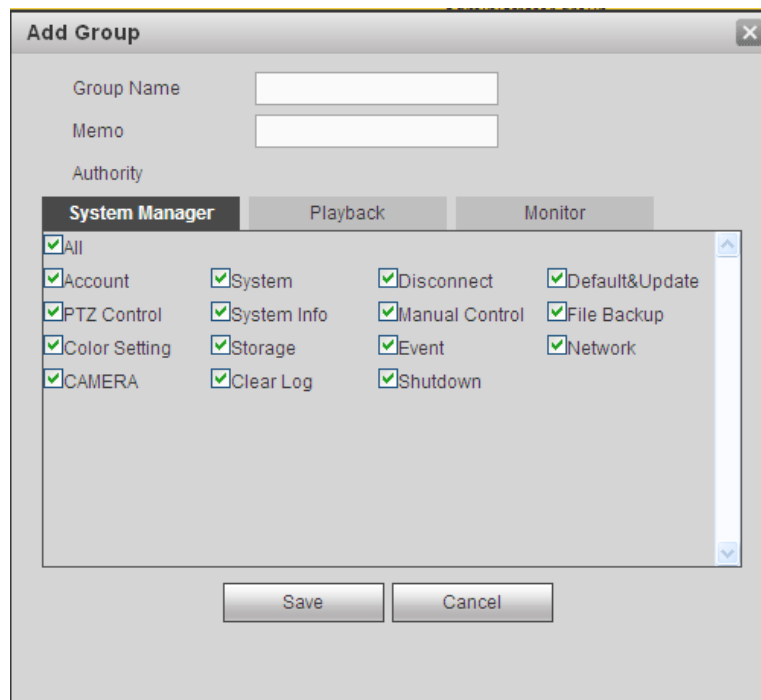

Figure 5-88
**Add group:** It is to add group and set its corresponding rights. See Figure 5-88. Please input the group name and then check the box to select the corresponding rights. It